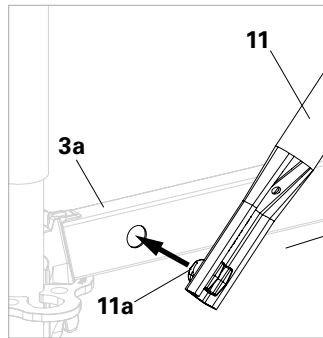

Fig. A2.19a
1. Insert mounting finger (**11a**) of the Ledger Brace UBL (**11**) diagonally into the hole of the bottom Horizontal Ledger UH (**3a**). (Fig. A2.19a/A2.19b)